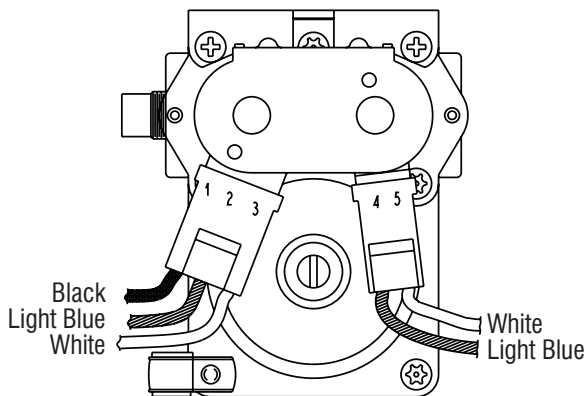

Figure 1 - Measuring gas valve resistance.
3. Use an ohmmeter to determine if a gas valve coil has malfunctioned. Remove harness plugs. Measure resistance across the terminals (see figure 1). Readings should match those shown in the following chart; if not, replace coils.